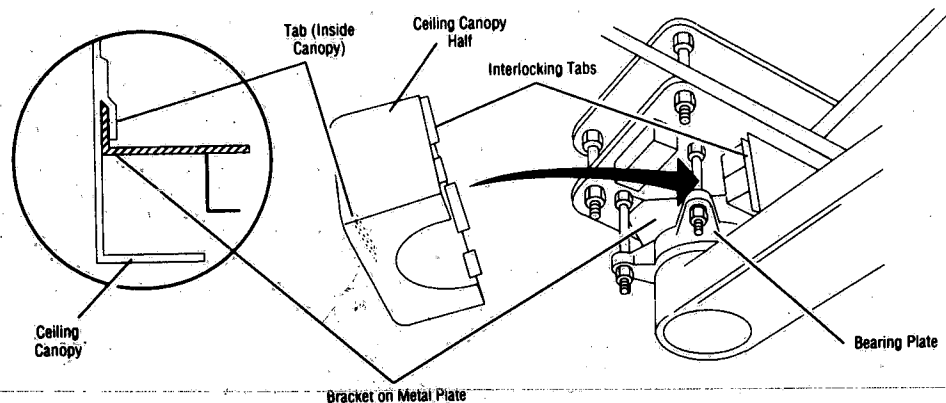

Figure 6-3. Reinstall Ceiling Canopy
9. Reinstall ceiling collar and canopy. Make sure tabs inside canopy halves are fastened over brackets on metal plate (see Figure 6-3).
4. Reinstall ceiling collar and canopy. Make sure tabs inside canopy halves are fastened over brackets on metal plate (see Figure 6-3).
7. Reinstall ceiling collar and canopy halves. Make sure tabs inside canopy halves are fastened over brackets on metal plate (see Figure 6-3).
8. Reinstall ceiling collar and canopy. Make sure tabs inside canopy halves are fastened over brackets on metal plate (see Figure 6-3).